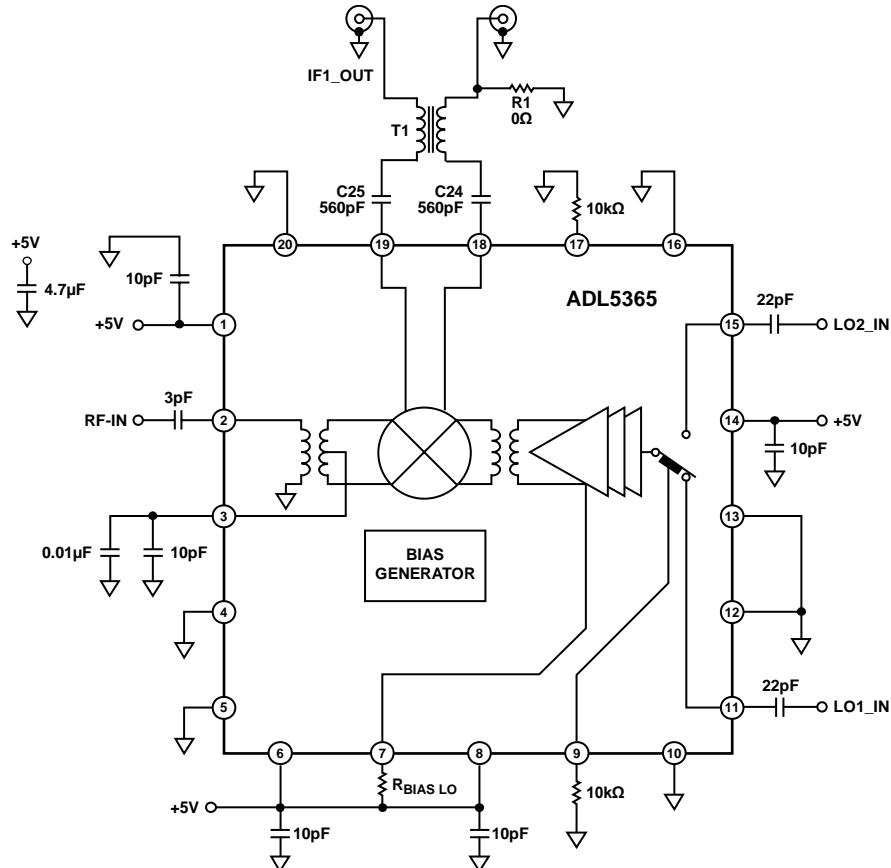

Figure 48. Typical Application Circuit
The ADL5365 mixer is designed to up- or downconvert between radio frequencies (RF) from 1200 MHz to 2500 MHz and intermediate frequencies (IF) from dc to 450 MHz. Figure 48 depicts the basic connections of the mixer. It is recommended to ac-couple RF and LO input ports to prevent non-zero dc voltages from damaging the RF balun or LO input circuit. The RFIN capacitor value of 3 pF is recommended to provide the optimized RF input return loss for the desired frequency band.